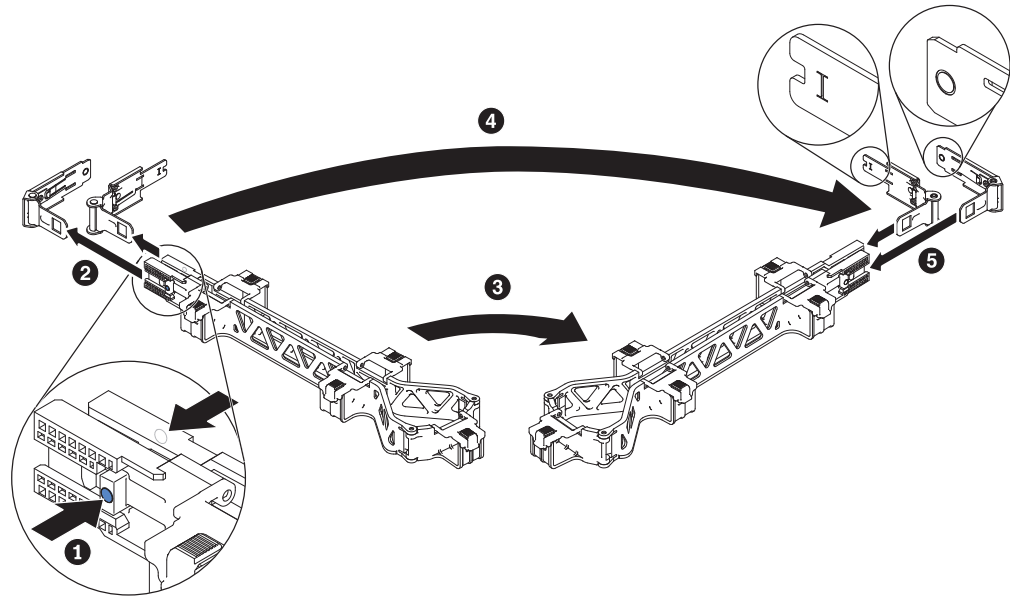

Figure 34. Installing the cable management arm on the opposite side
8. Optional: You can install the cable management arm assembly on the opposite side, as shown in Figure 34 on page 33.